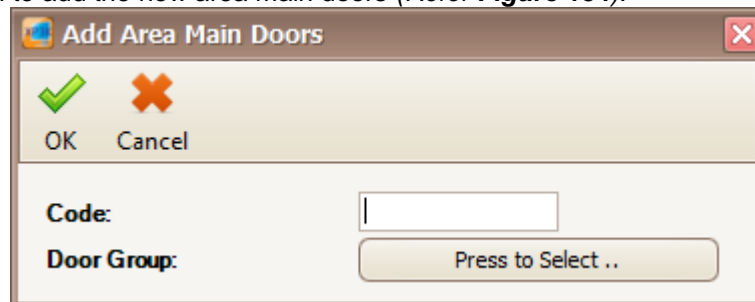

Figure 154 - Add Area Main Doors
3. Click Add button to add the new area main doors (Refer **Figure 154**).